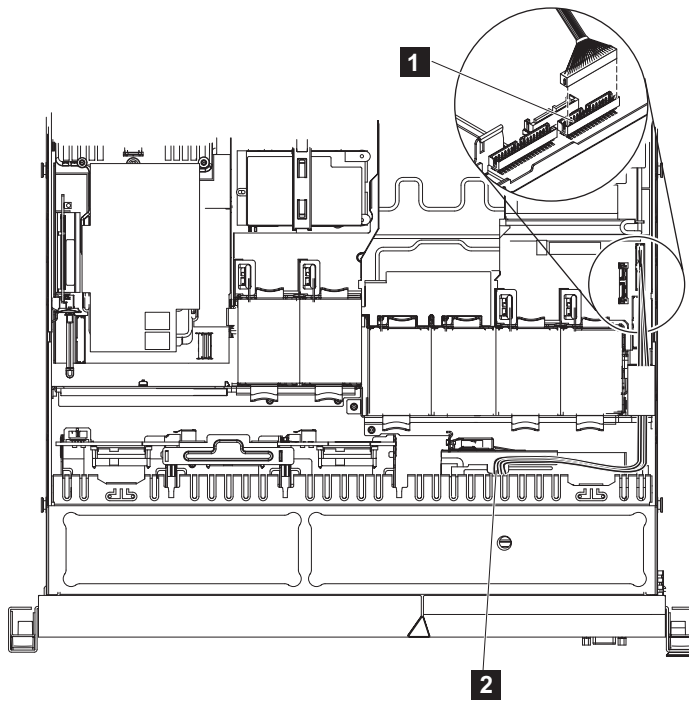

Figure 230. Disconnecting the SAN Volume Controller 2145-CG8 or 2145-CF8 operator-information panel cable
3. Disconnect the cable from the connector above the Video/USB cable connector on the right side of the node, as shown in Figure 230 on page 245.